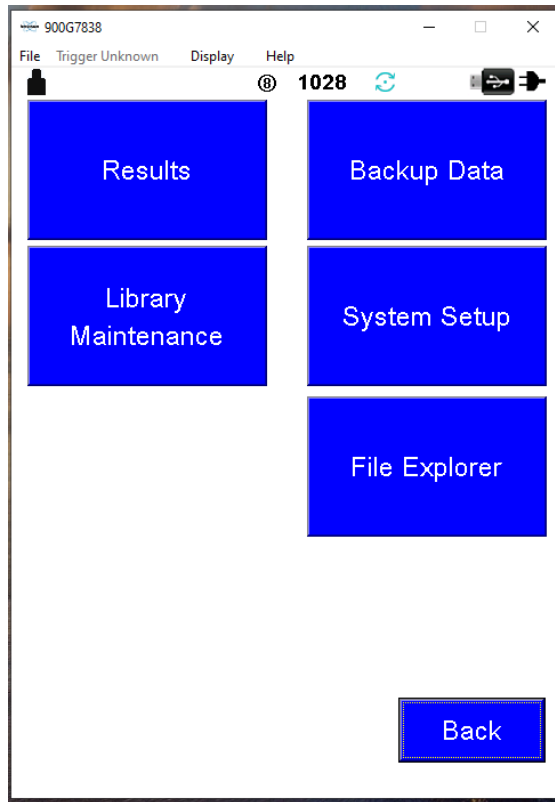

Figure 7. Utilities Window.
1. Click on **Utilities** in the bottom left of the main screen. After you click on **Utilities** the following window will appear on the screen (Figure 7).